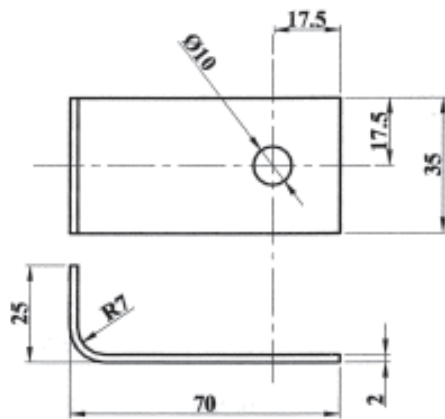

Fig: 3
- b) Calculate the develop length for bend component in fig.3. **4**
- c) Draw and design a bending die for the component shown in fig. 3. 8